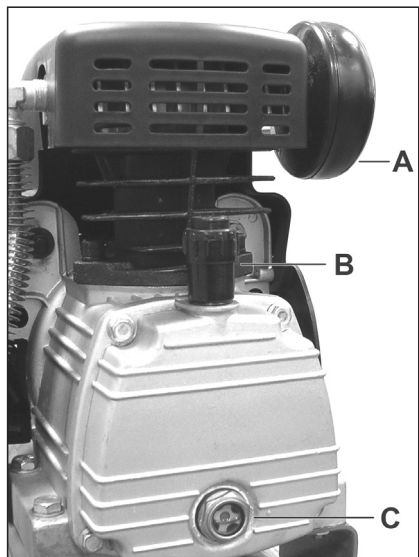

fig 2
- 3.6 Before using the compressor check the oil level by referring to the oil sight glass (fig 2.C). If the oil level is not up to the red centre mark it should be further topped up. Screw the filler/breather cap into the aperture as shown in fig 2.B.
- Replace the lubricating oil. For oil specifications see 5.6. Remove the oil filler/breather plug (see fig 2.B) then unscrew oil sight glass (fig 2.C) and drain the oil into a container. Drain when the compressor is hot so that oil drains rapidly and completely. Incline compressor to ensure complete drainage. Replace oil sight glass and refill through the oil filler/breather aperture. Do not overfill. Replace filler/breather plug.